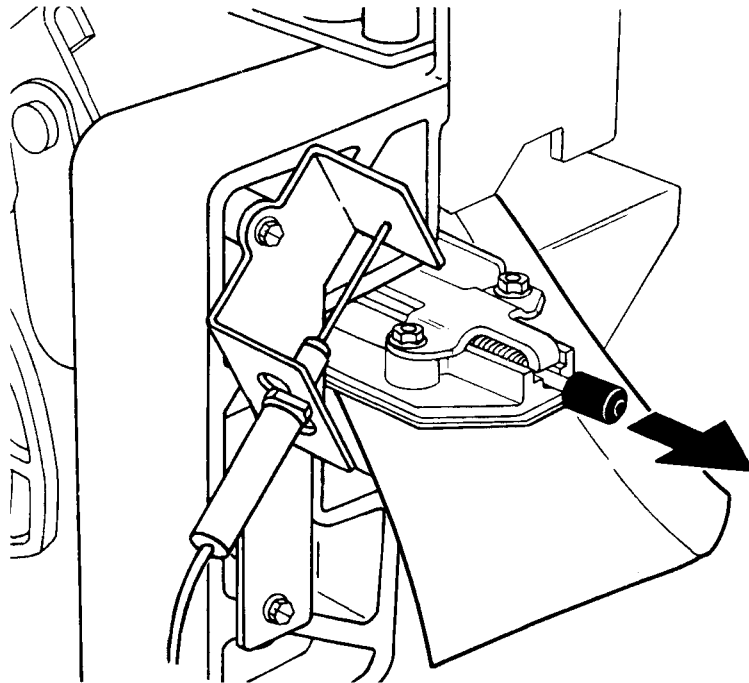

Figure 4-27 Removing the wire fragments
- Fold a piece of copy paper in half lengthwise. Place the folded sheet of copy paper under the stitcher head, as shown in figure 4-27.